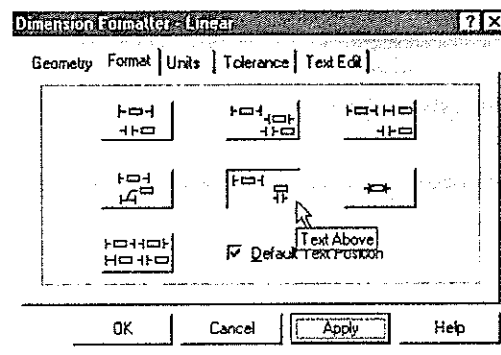

Figure 5.28 Dimension Formatter – Linear dialog box
–Now edit the format of a dimension by using the AMDIMFORMAT command. (See Figure 5.28, the Dimension Formatter – Linear dialog box.) Select the Format tab. Then select the [Text Above] button, check the Default Text Position box, and select the